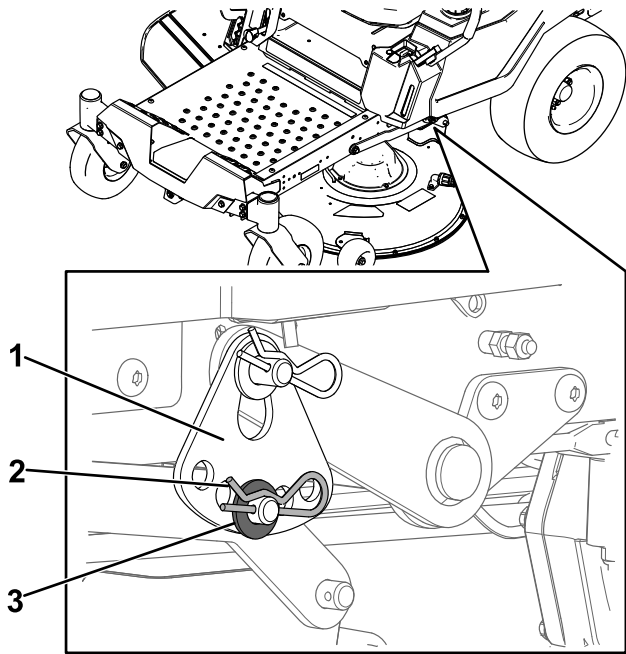

Figure 62
6. Remove the hairpin cotter and washer from the lower lift-arm pin (Figure 62).